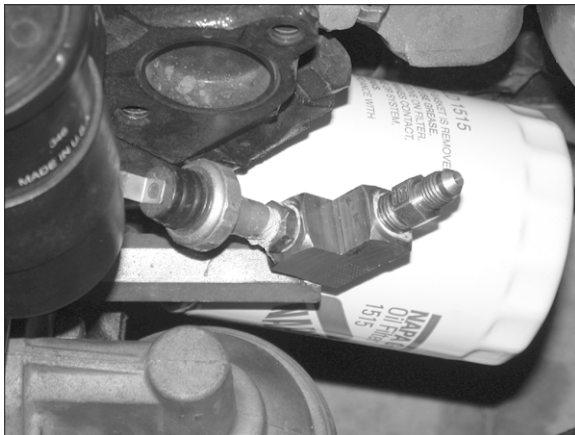

Fig. 3-a
- B. Remove the 1/4" NPT oil pressure sending unit from the fitting installed in the engine block (just above the factory fuel pump). Install the supplied 1/4 NPT street TEE in the factory fitting. Install the oil pressure sender in one of the openings and the supplied 1/4 NPT x -4 fitting in the other. (See *Fig. 3-a*).
- C. Attach the 90° end of the supplied -4 braided oil feed line to the installed fitting. (See *Fig. 3-a*). Secure the hose with the tie wraps provided, routing it away from exhaust heat, chafing and/or sharp objects. Temporarily cover the open end from debris until the connection is made to the supercharger.